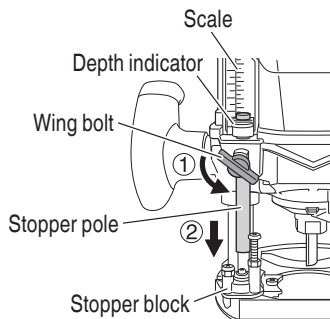

Fig. 13
- (1) Place the tool on a flat wood surface.
- (2) Loosen wing bolt allowing the stopper pole to contact with stopper block. (Fig. 13)